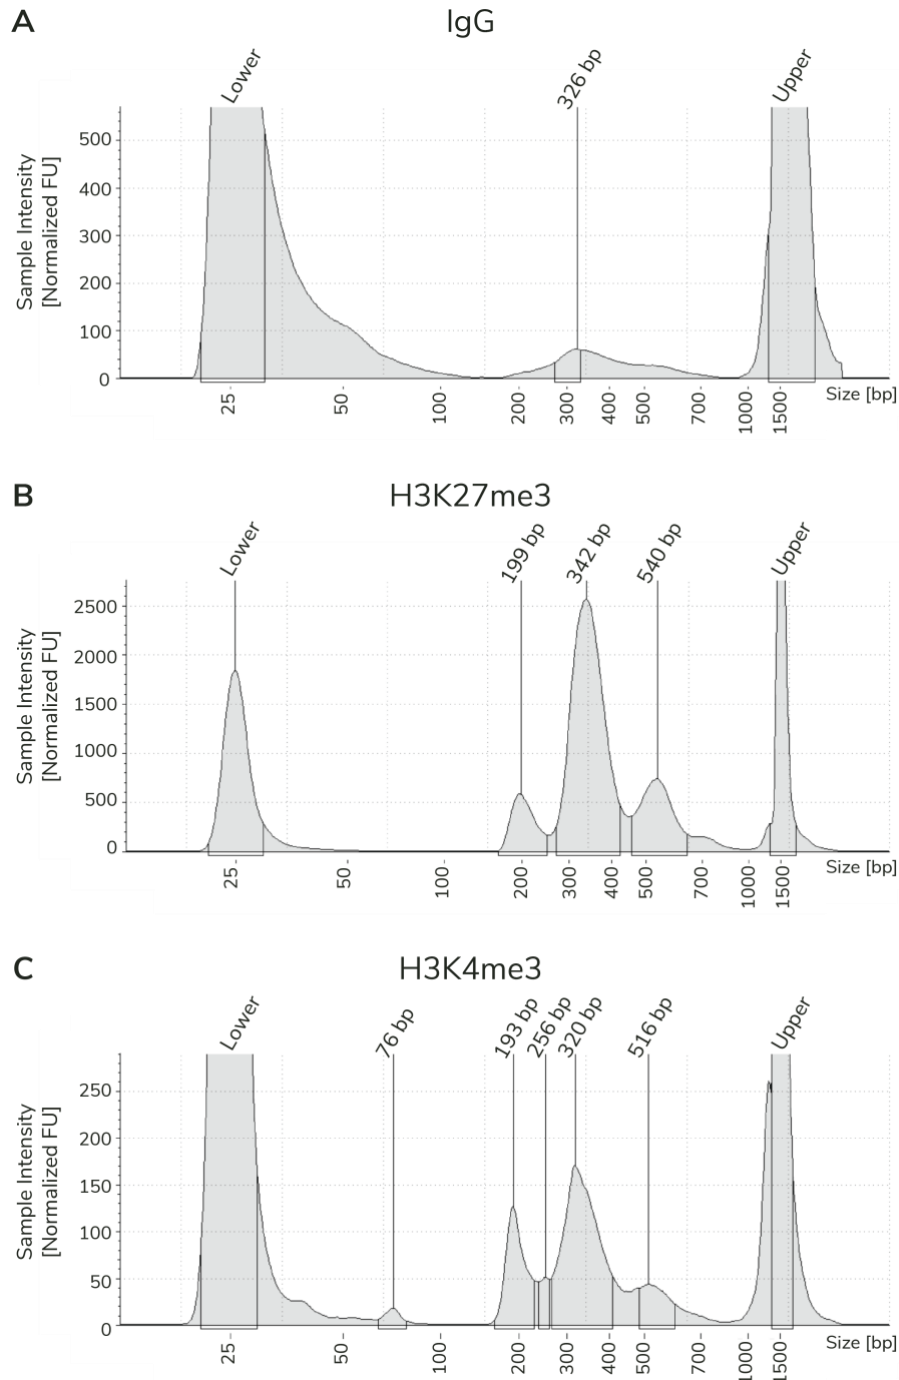

Figure 4
*Purified CUT&Tag libraries should show predominant enrichment of mononucleosome-sized fragments, at ~300 bp (**Figure 4**). **Note** that traces may show an oligonucleosome ladder with peaks every ~170 bp. This periodicity does not impact sequencing and size selection is **NOT** necessary.*
66. Final traces should show predominant enrichment of mononucleosome-sized fragments, as in **Figure 4** on the following page (~300 bp: ~170 bp DNA + sequencing adapters). This is the **BEST** indicator of CUT&Tag Experimental success prior to sequencing.